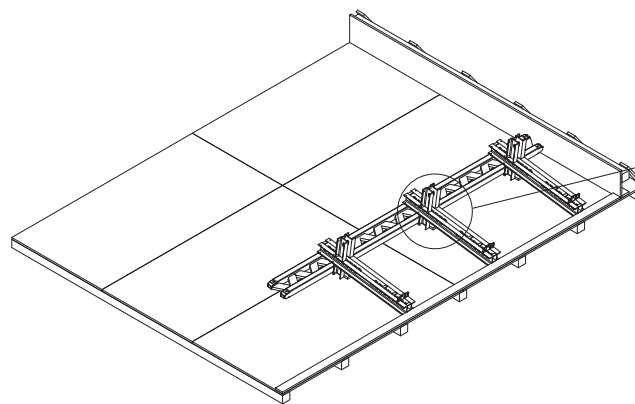

Fig. A2.02
2. Position the GT 24 Girder, use screw clamps to hold in position and fix by means of HB Hook Straps. (Fig. A2.02)